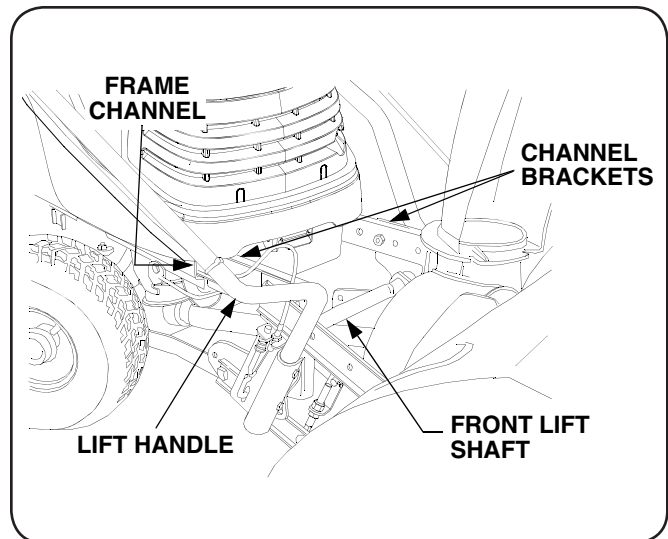

Figure 5-3
**NOTE:** To ease insertion into the tractor frame channels, apply a light coating of grease to the channel brackets of the snow thrower hitch assembly ( Refer to Figure 5-3).
4. Slide the snow thrower assembly rearward until the channel brackets of the hitch assembly engage the frame channels of the tractor. See Figure 5-3.
9. Pull the snow thrower assembly forward to disengage the channel brackets from the tractor frame channels (Refer to Figure 5-3).